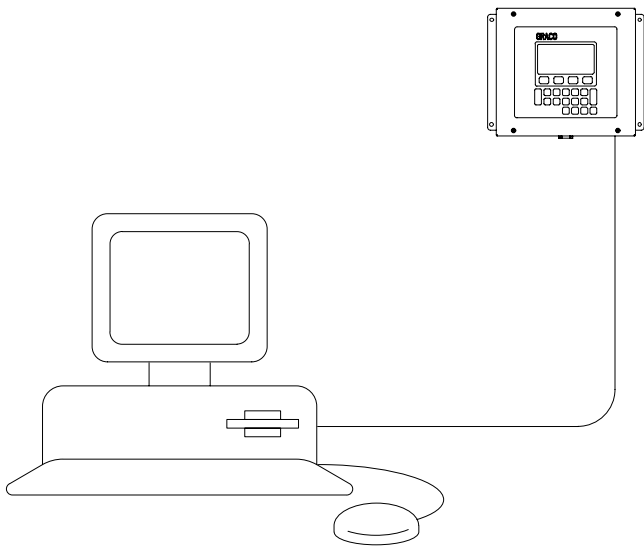

Fig. 13.57
7. To update the User Interface with the translation, connect the computer cable end (9 pin) to the computer serial port. Connect the jack end of the cable to the User Interface. See Fig. 13.57.